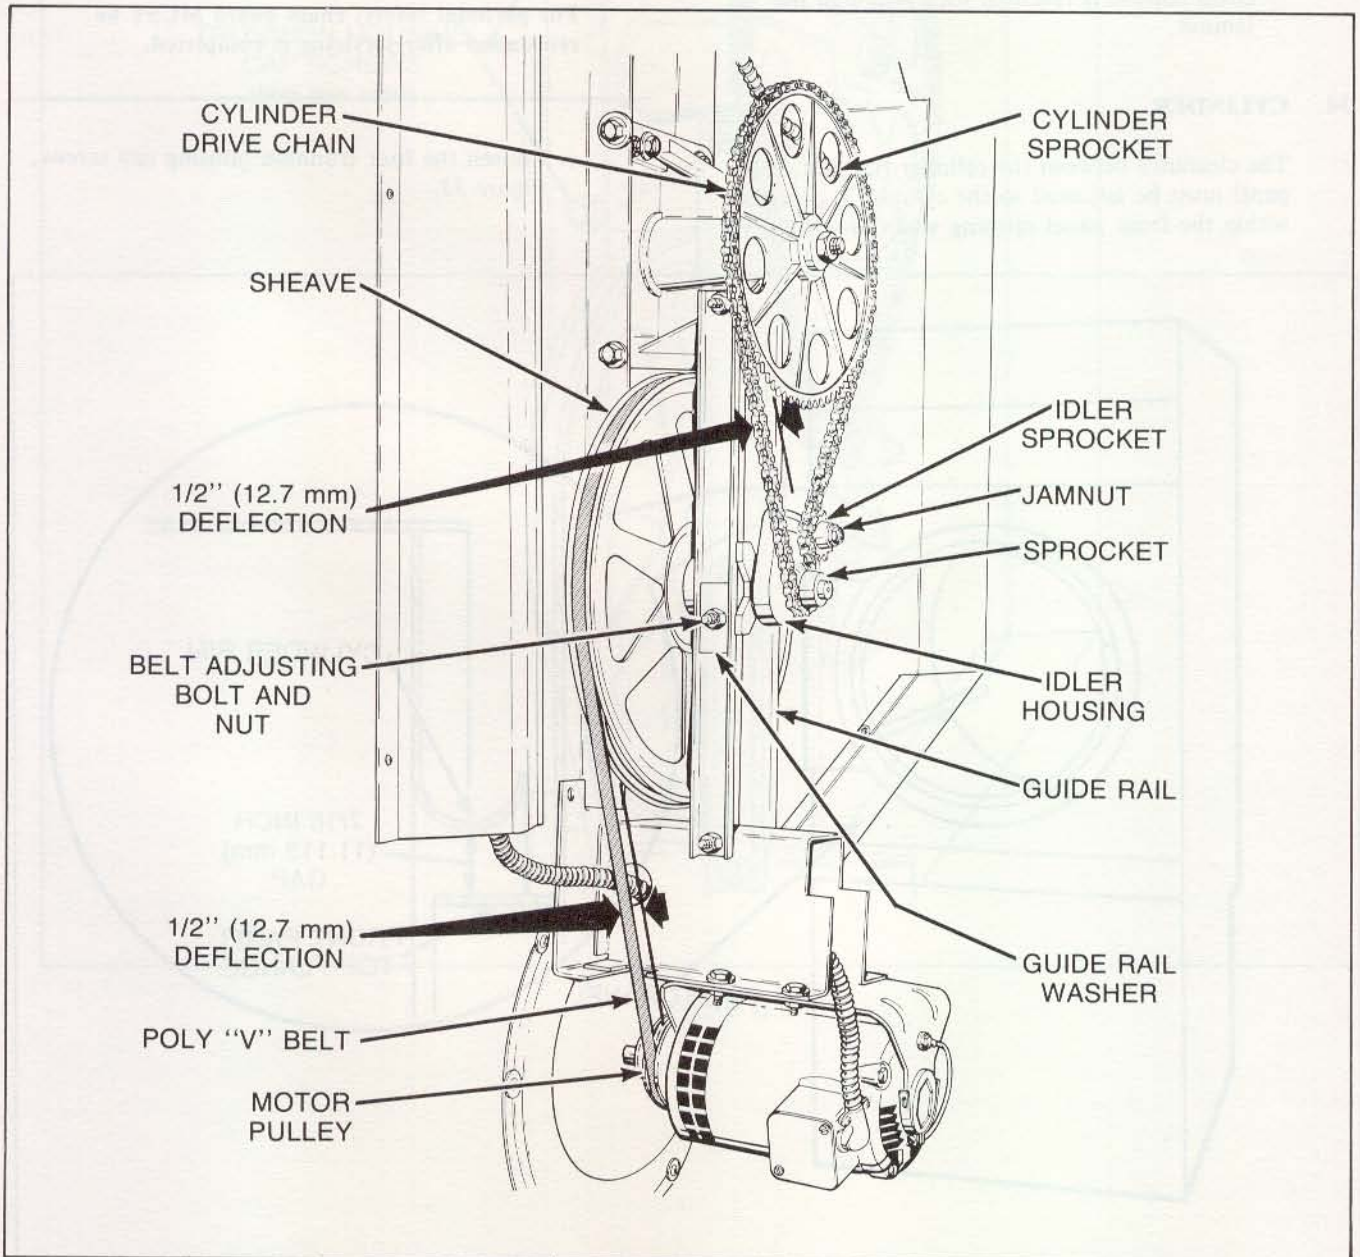

Figure 30
### 32. POLY "V" DRIVE BELT TENSION (Figure 30)
**33. DRIVE CHAIN TENSION (Figure 30)**